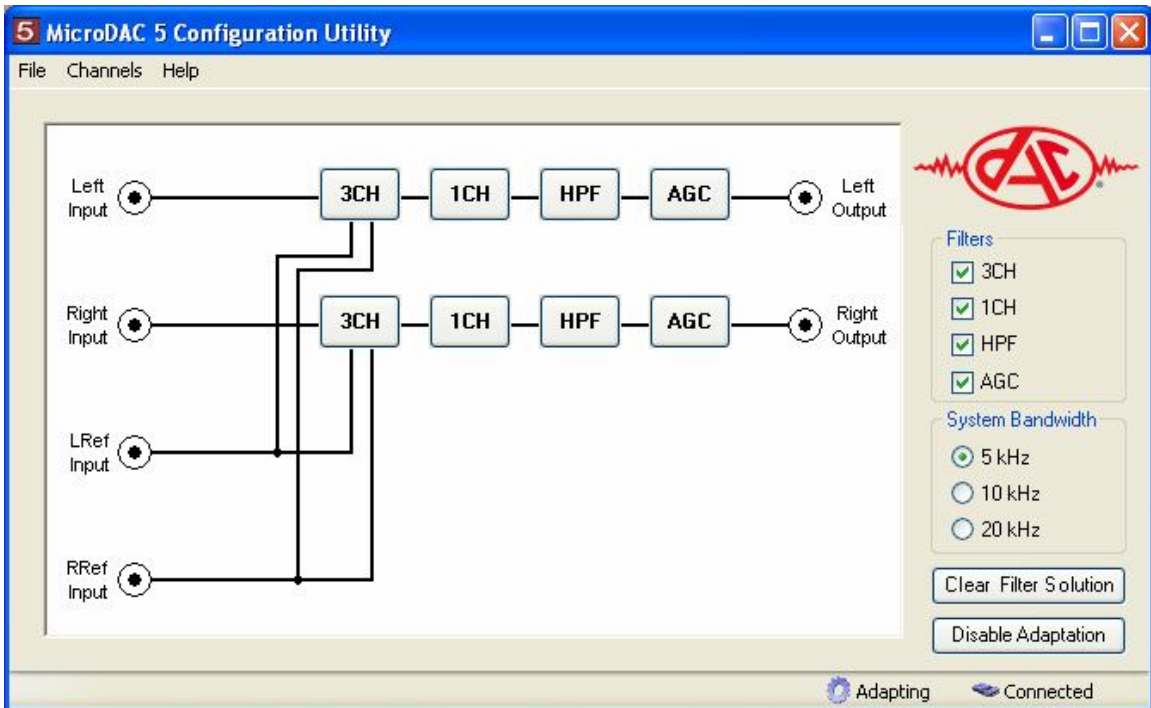

Figure 5-9: Stereo 3CH
- 3CH: References for both signals are LRef and RRef Inputs (see Figure 5-9)